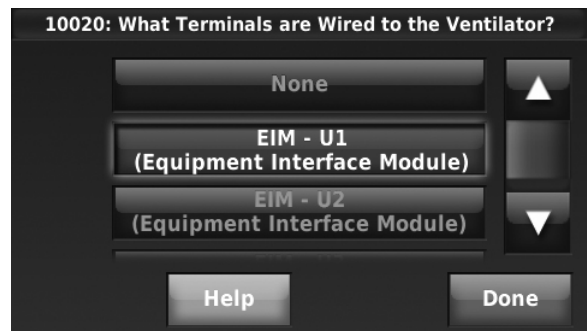

Fig. 145.
2. Select the terminals wired to the Ventilator (or Fresh Air Damper). See Fig. 145.